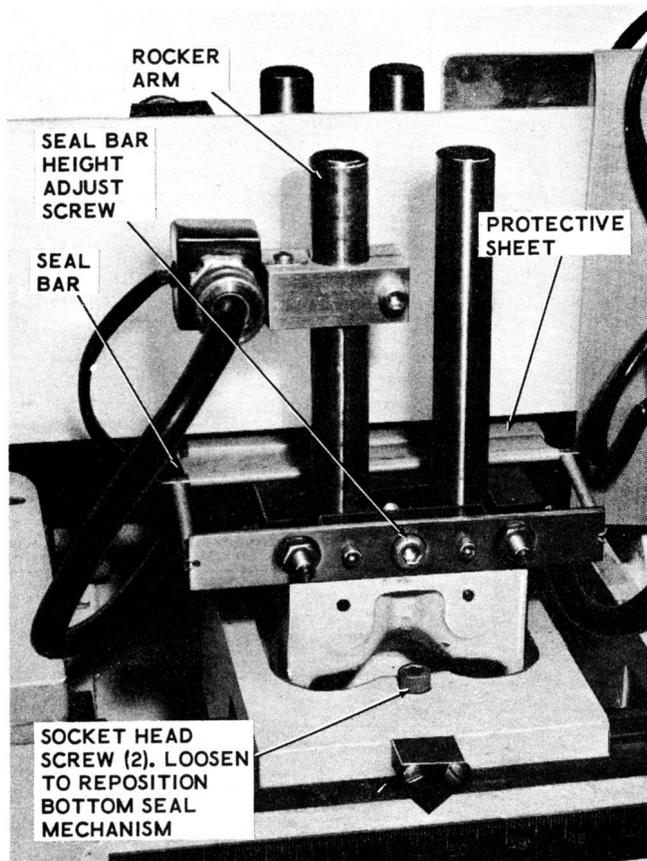

Figure 3-14. Bottom Seal
mounted on the rear base and aligned by a square key on the machine ways. The bottom seal is used on fin type pouches. By applying heat, and pressure, the bottom seal bars (Figure 3-14) produce a continuous seal along the bottom fold of the web. The pressure applied to the web by the bottom seal bars is preset and not adjustable. Bottom seals up to 1/2 inch high maximum can be formed. Each bottom seal bar is usually fitted with a sheet of teflon coated, fiber glass material approximately 0.008 inch thick to protect the seal bars from picking up printing from the web.
- a. Loosen two socket head screws (Figure 3-14). Loosen screws retaining bottom seal mechanism actuating cam on cycle shaft.
- (1) Loosen each bottom seal bar height adjustment screw (Figure 3-14).
- (2) Raise or lower rear seal bar on rocker arms until desired position is reached. Align front bar with rear and tighten height adjustment screws.